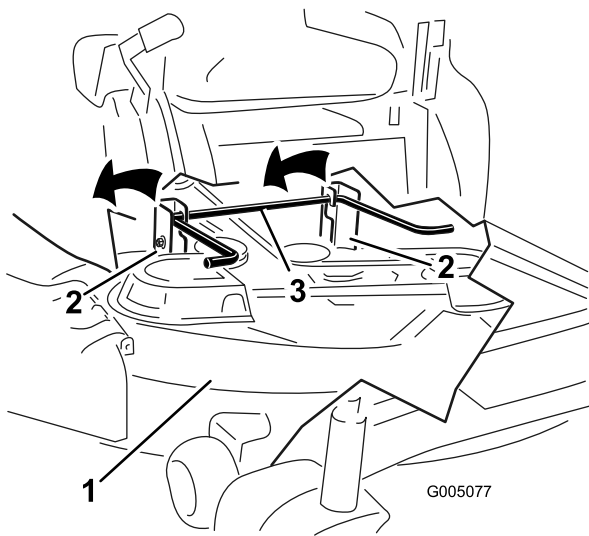

Figure 54
5. Lift the mower deck and hanger brackets clear of the rear lift rod and lower the mower carefully to the ground (Figure 54).
5. Lift the rear of the mower deck and guide the hanger brackets over the rear lift rod (Figure 54).